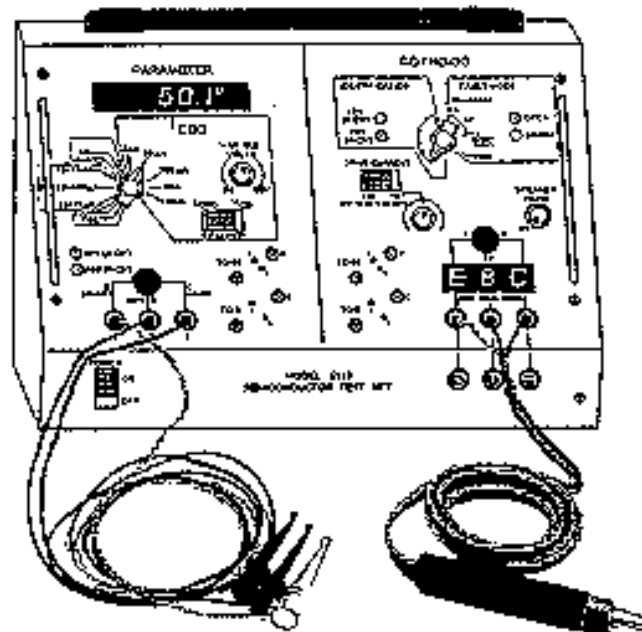

Figure 2-4.—Semiconductor test set.
The semiconductor test set (fig. 2-4) is a rugged, field type of tester designed to test transistors and semiconductor diodes. The set measures the beta of a transistor, resistance appearing at the electrodes, reverse current of a transistor or semiconductor diode, shorted or open conditions of a diode, forward transconductance of a field-effect transistor, and condition of its own batteries.
With the POLARITY switch (fig. 2-4) in the OFF position, the meter pointer should indicate exactly zero. (When required, rotate the meter adjust screw on the front of the meter to fulfill this requirement.) When measurements are not actually being made, the POLARITY switch must always be left in the OFF position to prevent battery drain.
**BETA MEASUREMENTS.**—If the transistor is to be tested out of the circuit, plug it into the test jack located on the right-hand side below the meter shown in figure 2-4. If the transistor is to be tested in the circuit, it is imperative that at least 300 ohms exist between E-B, C-B, and C-E for accurate measurement. Initial settings of the test set controls are as follows: